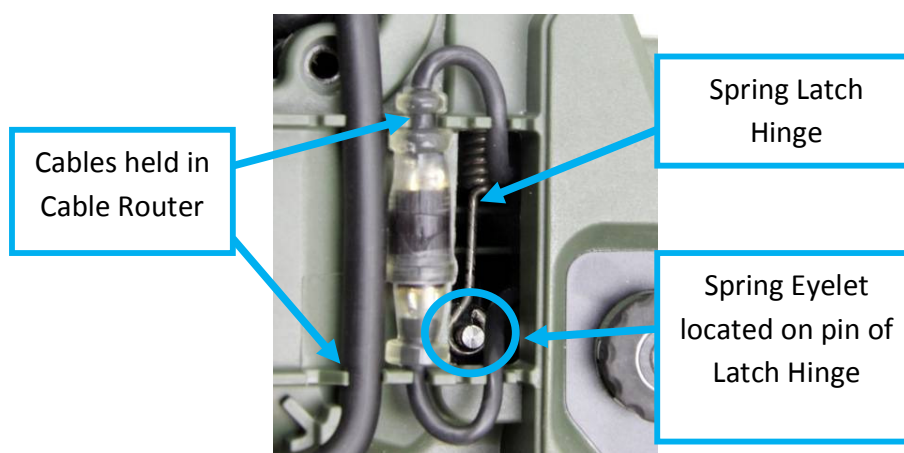

Figure 25: Underneath Hinge Cover
- Check the latch and spring are connected as shown in Figure 25. If the latch and spring have become disconnected they must be reconnected. It is possible to reattach the eyelet of the spring to the pin of the latch hinge through the opening under the hinge cover. Alternately the detector body can be opened to reattach the spring to the latch.